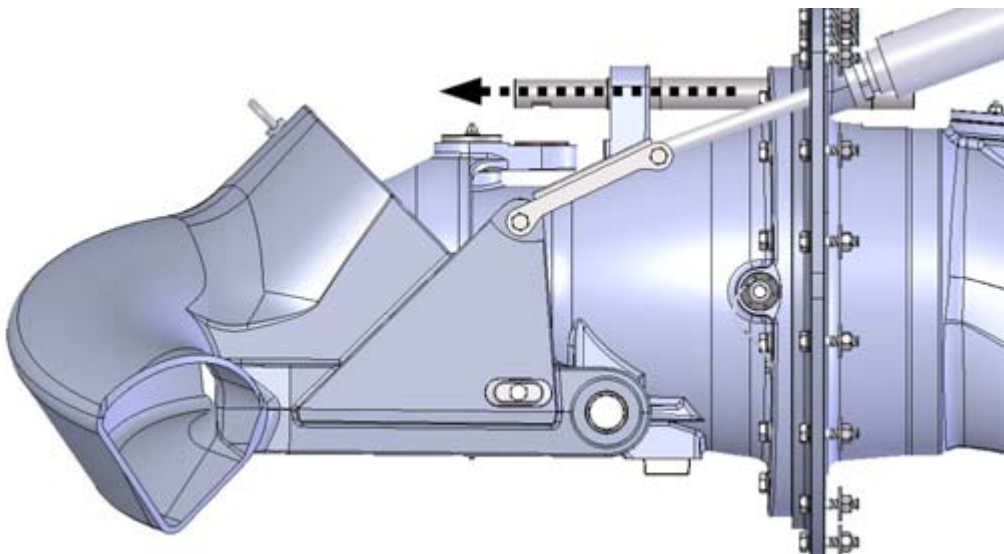

Figure 72. Installing the steering shaft
1. Push the steering shaft through the holes from the front (figure 72).